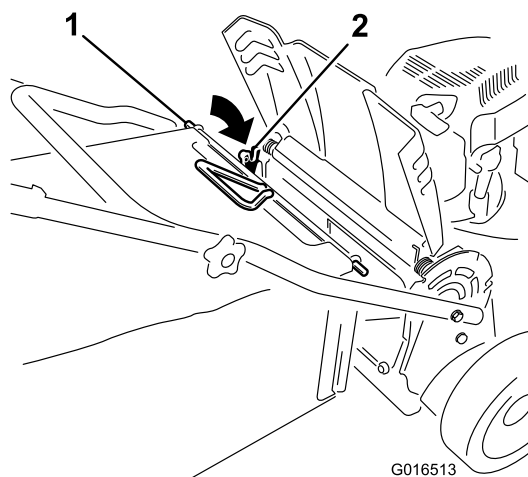

Figure 25
3. Install the bag rod into the notches at the base of the handle and rock the bag back and forth to ensure that the rod is seated at the bottom of both notches; refer to Figure 25.